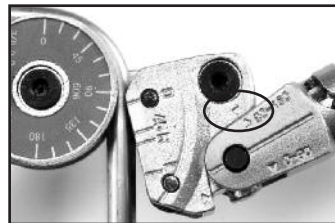

Figure 13 – Rotate Handle
2. Rotate the handle around the Carriage until the 90-180° triangle mark on the Handle aligns with the triangle mark on the Carriage (Figure 13).